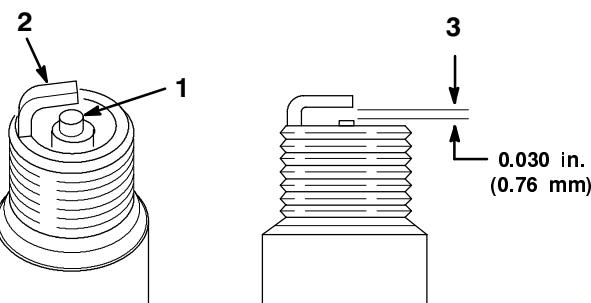

Figure 61
1. Look at the center of the spark plug(s) (Fig. 61). If you see light brown or gray on the insulator, the engine is operating properly. A black coating on the insulator usually means the air cleaner is dirty.
2. Check the gap between the center and side electrodes (Fig. 61). Bend the side electrode (Fig. 61) if the gap is not correct.